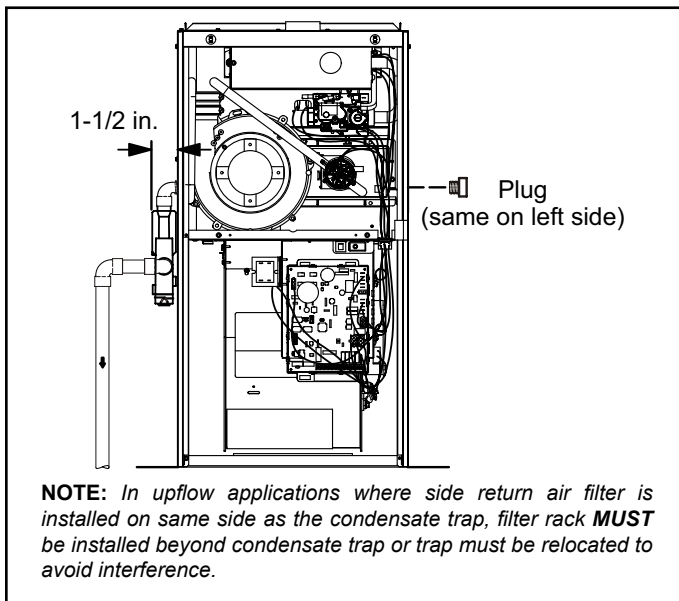
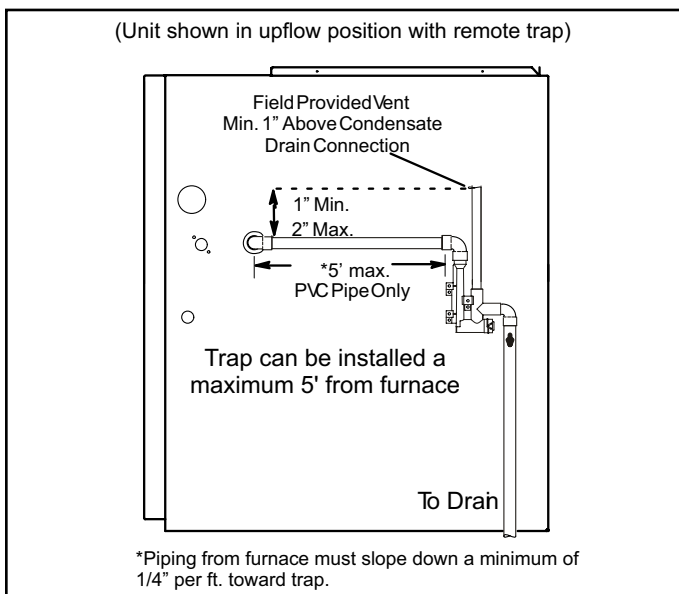
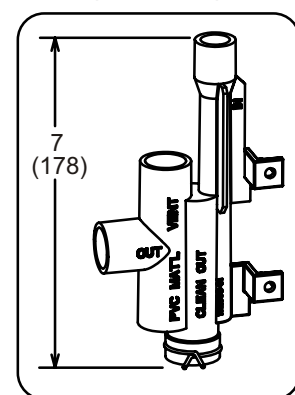

Figure 37. Condensate Trap and Plug Locations (Unit Shown in Upflow Position)
Figure 38. Condensate Trap Locations
Figure 46. Trap / Drain Assembly Using 1/2" PVC or 3/4" PVC Cold End Header Box with 1/2 Drain Connection
This unit is designed for either right- or left-side exit of condensate piping in upflow applications. In horizontal applications, the condensate trap must extend below the unit. An 8" service clearance is required for the condensate trap. Refer to Figure 37 and Figure 38 for condensate trap locations. Figure 45 and Figure 46 show trap assembly using 1/2" PVC or 3/4" PVC.
2. For furnaces with a 1/2" drain connection use a 3/8 allen wrench and remove plug (Figure 37) from the cold end header box at the appropriate location on the side of the unit. Install field-provided 1/2 NPT male fitting into cold end header box. For furnaces with a 3/4" drain connection use a large flat head screw driver or a 1/2" drive socket extension and remove plug. Install provided 3/4 NPT street elbow fitting into cold end header box. Use Teflon tape or appropriate pipe dope.
3. Install the cap over the clean out opening at the base of the trap. Secure with clamp. See Figure 45 and Figure 46.
4. Install drain trap using appropriate PVC fittings, glue all joints. Glue the provided drain trap as shown in Figure 45 and Figure 46. Route the condensate line to an open drain. Condensate line must maintain a 1/4" downward slope from the furnace to the drain.